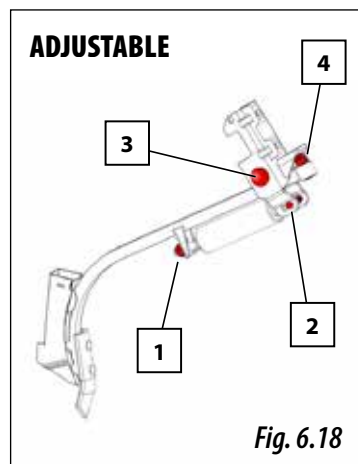

Fig. 6.18
Adjust the spring nut to set the pressure exerted by the couler on the soil (1, Fig. 6.18). The pressure can also be adjusted by changing the bolt's position (2, Fig. 6.18).
These coulters are fastened to the bracket by a special SOLA bolt (3, Fig. 6.18) with a self-locking nut. This nut is used to set the couler's clearance.
- 1- Adjust the nut and bolt (4, Fig. 6.18).